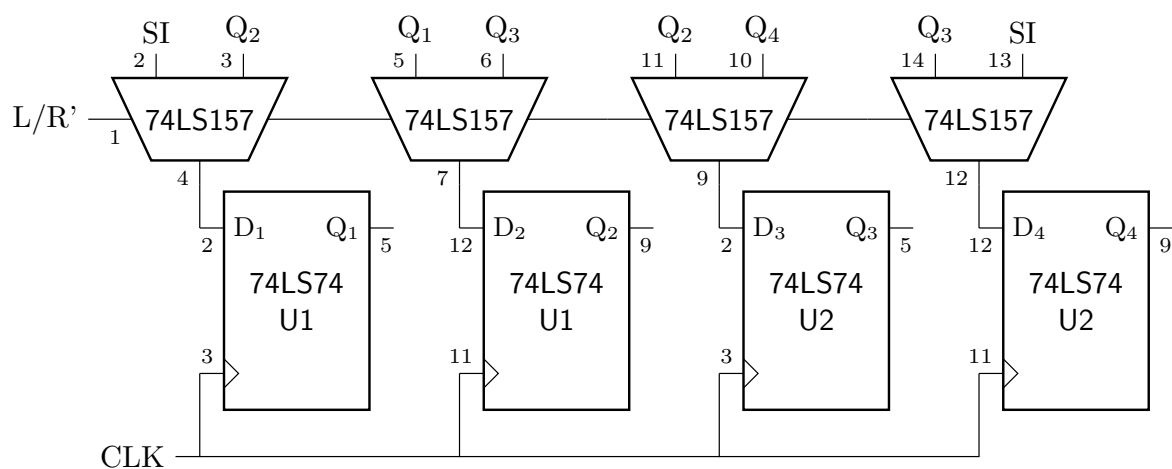

Figure 3: Circuit diagram of a 4-bit bidirectional shift register
1. Realise a 4-bit bidirectional shift register, as shown in Figure 3.
In the following diagrams, only pin numbers for additional connections required over Figure 3 are depicted.